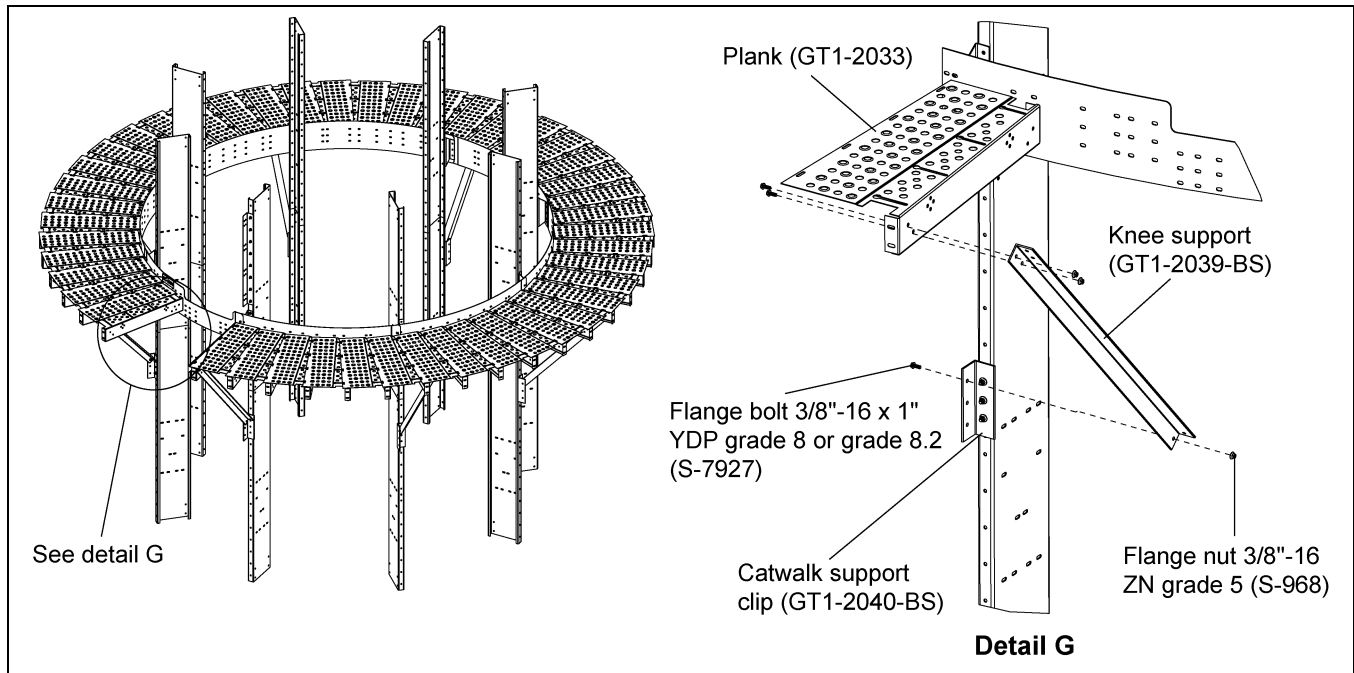
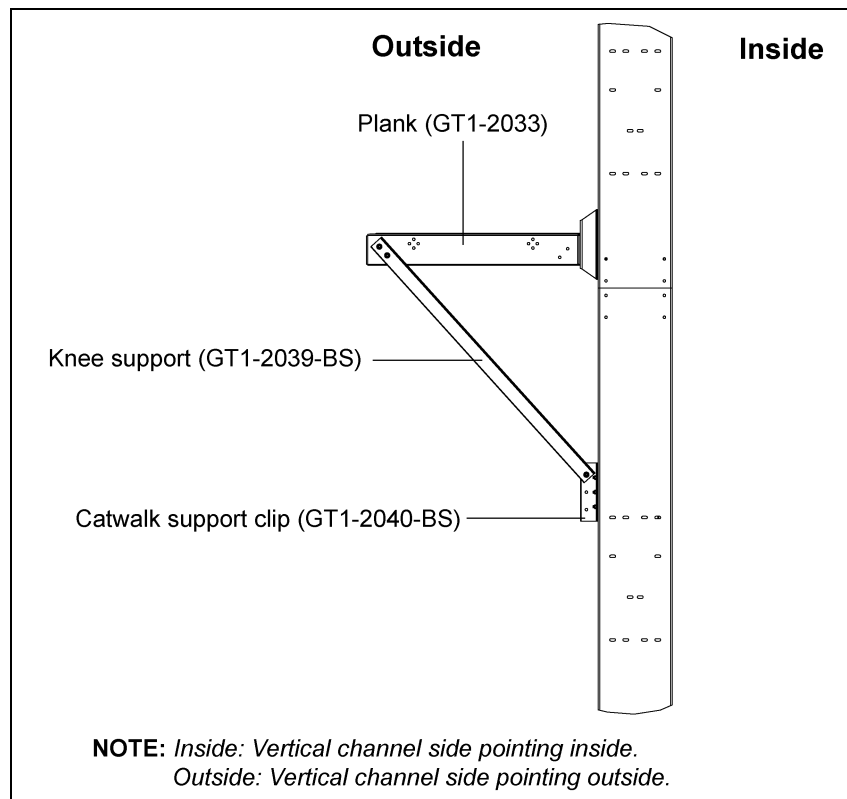

Figure 4P
Figure 4Q
1. Install the knee support (GT1-2039-BS) around the dryer between the catwalk support clips (GT1-2040-BS) and planks (GT1-2033) using 3/8"-16 x 1" YDP grade 8 or grade 8.2 bolts (S-7927) and 3/8"-16 ZN grade 5 nuts (S-968). (See Figure 4P and Figure 4Q.)